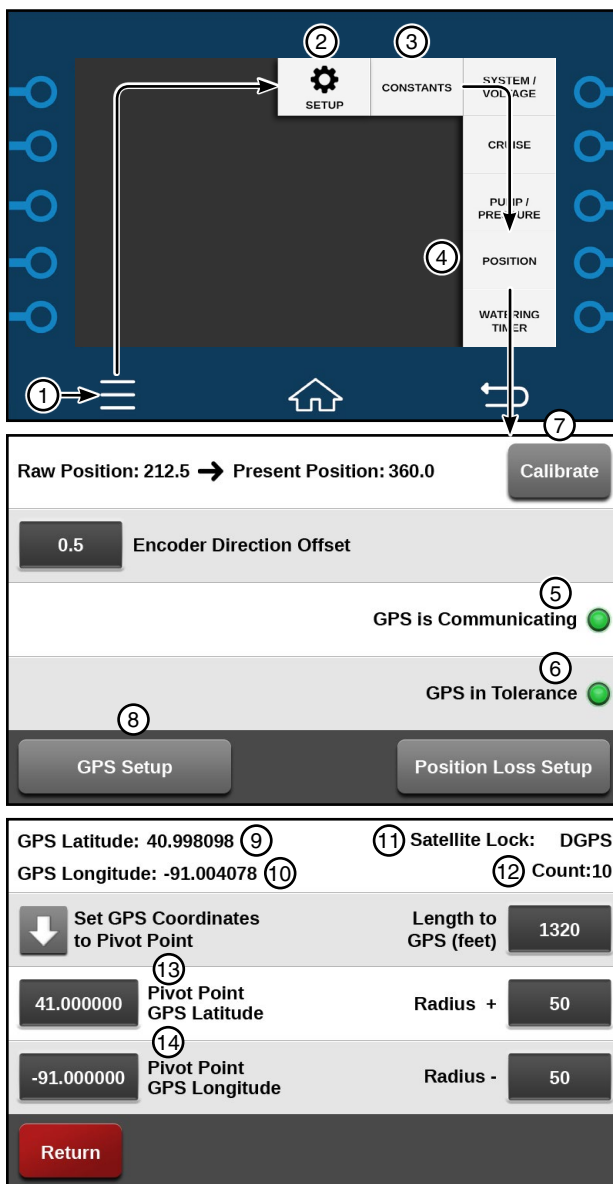

Figure 48-1
5. To view the GPS Setup screen push **GPS Setup**. See Figure 48-1.